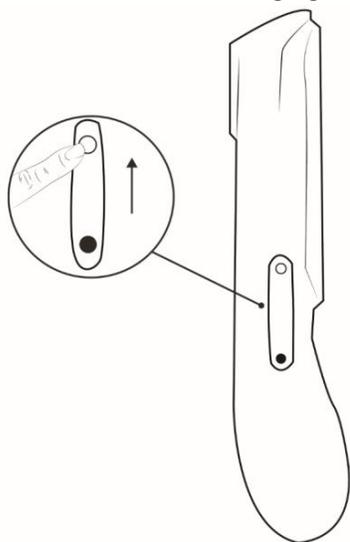

Figure 5:
2. Toggle the Rocker Switch to its “up” position (Figure 5).